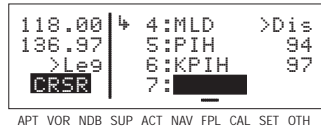

Figure 4-126
- The last waypoint in the flight plan is always displayed at the bottom of the FPL 0 page, even if all of the waypoints in the flight plan can't be displayed on the page at one time. To view intermediate waypoints, turn the cursor on and use the right outer knob to manually scroll through all of the waypoints, as desired. If scrolling is performed all the way to the end of the flight plan, a blank waypoint position will exist so that a waypoint may be added to the end of the flight plan (figure 4-126).